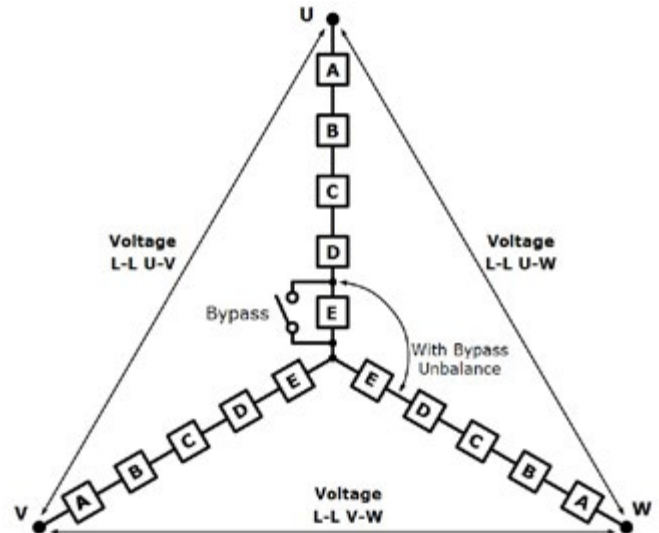

Figure 4: Three phase system and showing unbalance with one phase being bypassed.
- Cells can be bypassed to allow for redundancy. See Figure 4. If one cell is inoperable for any reason, it can be shorted out using a bypass switch, see Figure 2. This switch can be mechanical or semiconductor based using a pressure contact technology based thyristor module. As long as there is some voltage margin, the drive can still operate either in an unbalanced condition, or by also shorting out one cell on the other two phases, in a balanced condition.